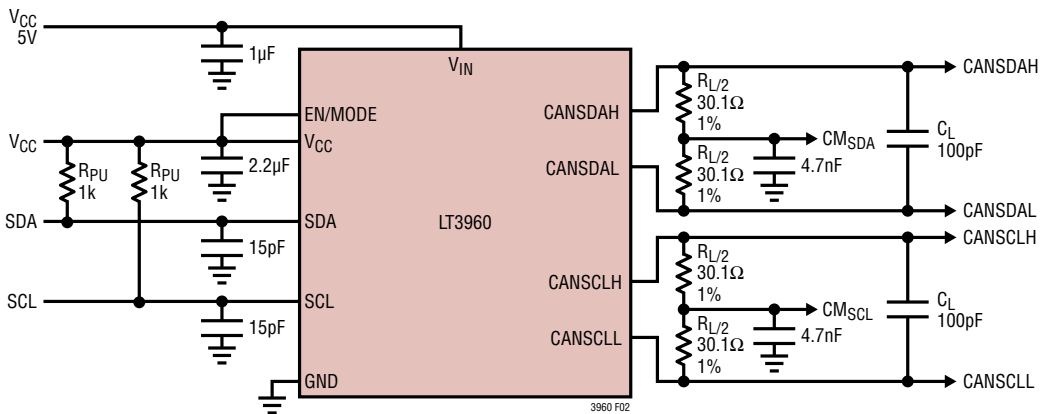

Figure 2. All Switching Characteristic Measurements
**SWITCHING CHARACTERISTICS** The ● denotes the specifications which apply over the full operating temperature range, otherwise specifications are at  $T_A = 25^\circ\text{C}$ .  $V_{IN} = 12\text{V}$ ,  $V_{CC} = 3.3\text{V}$ , Figure 2 applies with  $R_{PU} = 4.99\text{k}$ ,  $R_L = 60\Omega$ ,  $\text{EN}/\text{MODE} = V_{CC}$ , TYP values unless otherwise specified.